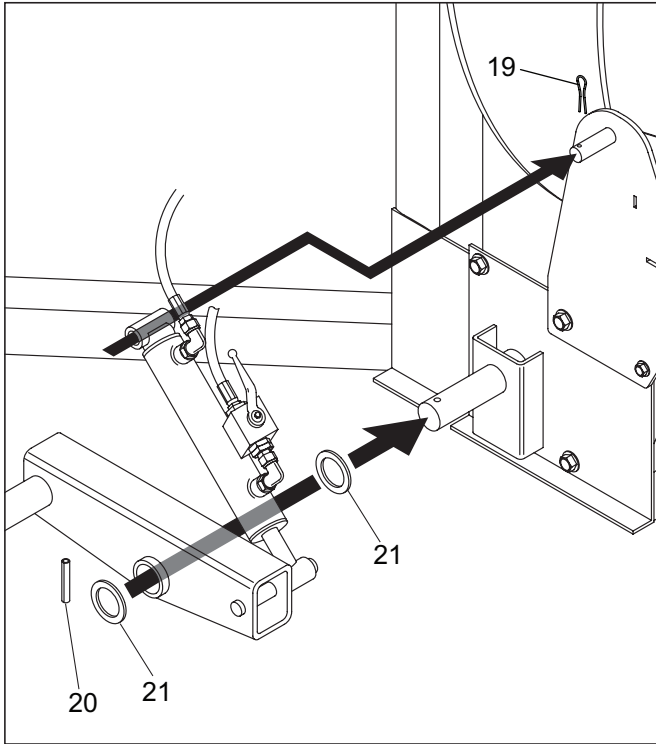

Figure 25
9. Fasten each assembled axle, as shown in Figure 25. Use a 3/16" X 1 1/2" lg. cotter pin (item 19) to secure the cylinder assembly to the support. Use a 1/4" X 2" lg. spring pin (item 20) to lock the axle to the frame shaft. Insert two 1 1/2" X 14 gage spacers (item 21) as shown below. These two spacers can be taken from the parts previously disassembled.